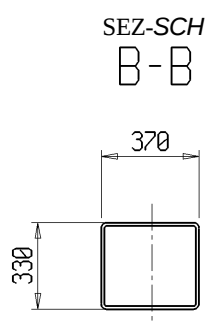

Fig.1-9
VERSIONE FISSA 6.9 (fig.1-9- fig.1-10).
- FESTE VERSION 6.9 (Abb. 1-9, Abb. 1-10).